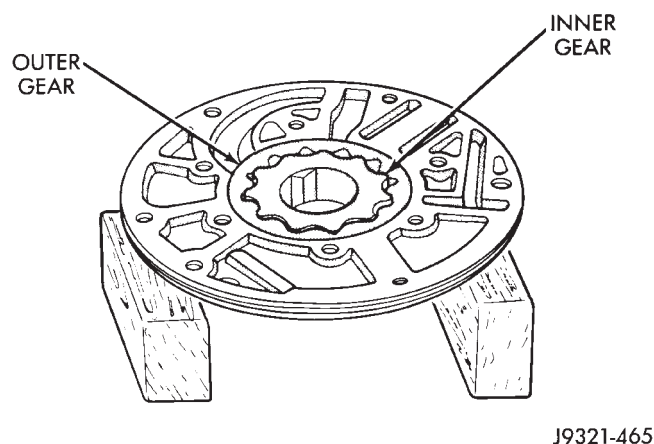

Fig. 145 Pump Inner Gear Installation
(5) Install pump inner gear (Fig. 145).